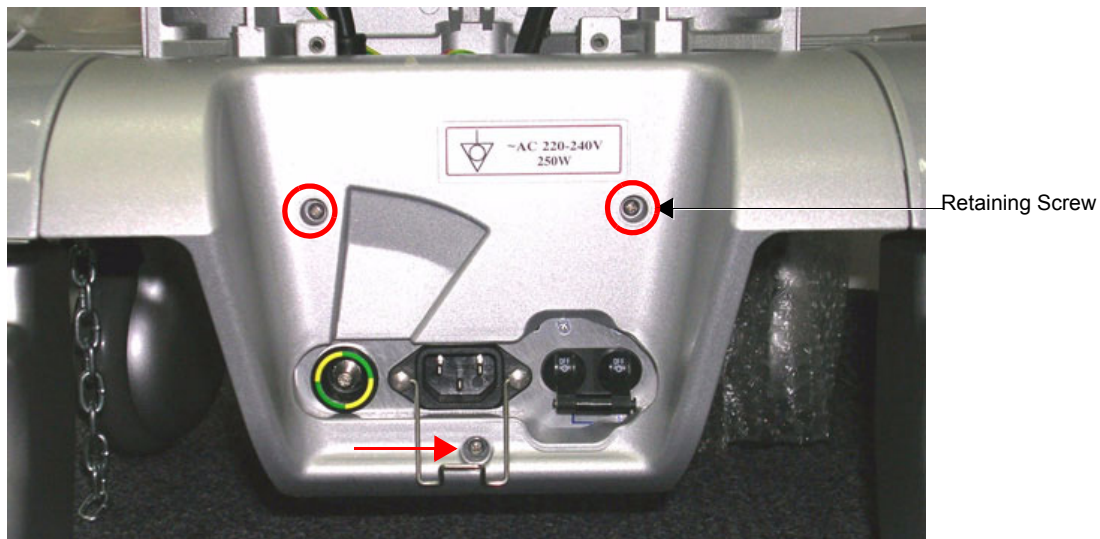

Figure 8-85 AC Distribution Assembly and Mounting Bracket
- 4) Remove the three retaining screws of the AC Assembly Cover and remove the cover - Figure 8-85 below.